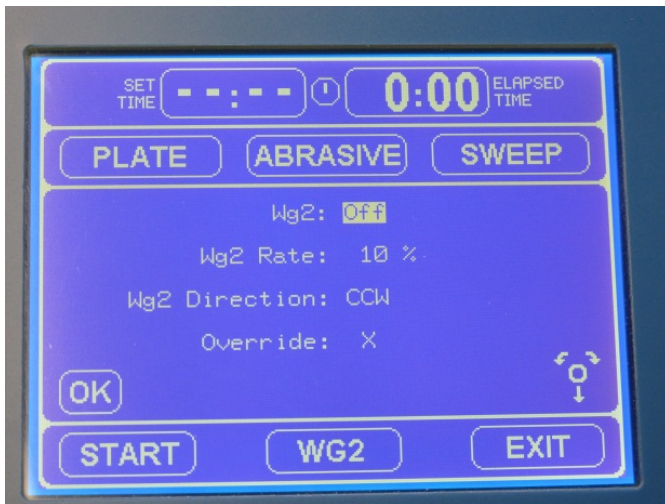

Figure 12
- i. While on the **WG2** (Fig. 12) screen, select **Wg2** and change it from "off" to "on".
- iii. On the **WG2** (Fig. 12) screen move the joystick down to **Override** and change it from an "X" to a "Check" just until it rotates the carousel enough so you can access the other side. Then change override back to an "X".